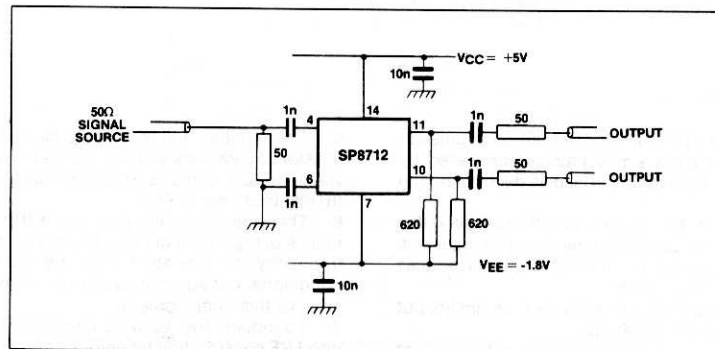

Fig.6 Operation on split supply voltages
6. These devices may be used with split supply lines by means of the circuit of Fig.6. Some improvement in the upper frequency of operation may be obtained under these conditions, but suitable circuit layout must be employed to achieve this improvement.